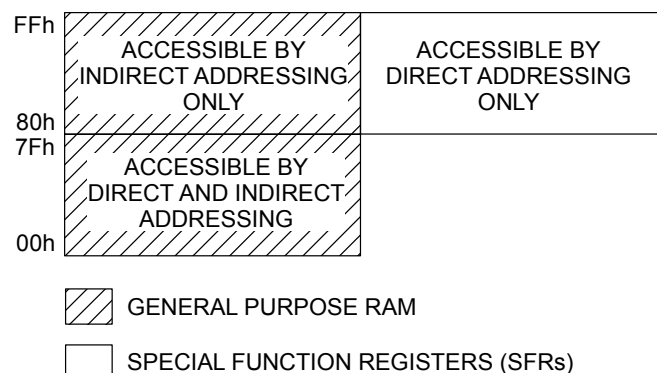

Figure 57. General Purpose RAM and SFR memory address overlap
Addresses 0x80 through 0xFF of General Purpose RAM are shared with the Special Function Registers. The mode of addressing determines which memory space is accessed as shown in Figure 57.
**Special Function Registers:** Special Function Registers are registers that affect the function of the 8051 core or its peripherals. These registers are located in RAM with addresses 0x80 through 0xFF. They are only accessible through direct addressing as shown in Figure 57 .